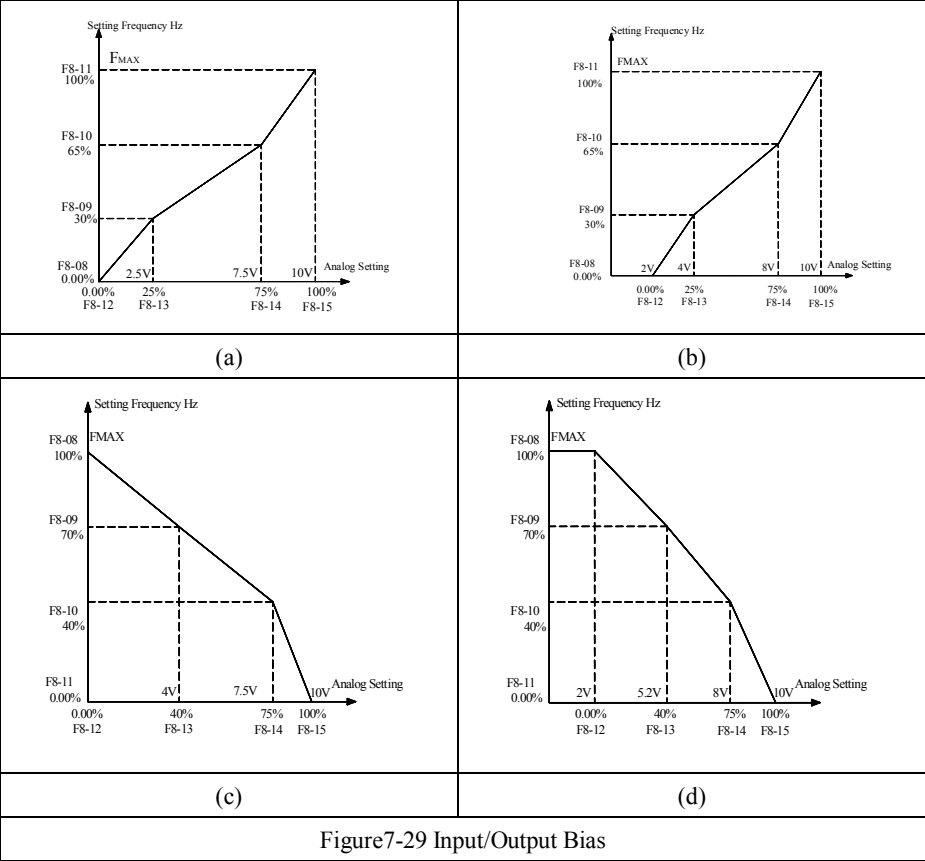

Figure7-29 Input/Output Bias
If analog input is VS/VF (0~10V) or IS/IF (0~20mA), see Figure 7-29(a) for the input/output bias.
If analog input is VS/VF (2~10V) or IS/IF (4~20mA), see Figure 7-29(b) for the input/output bias.
If analog input is VS/VF (0~10V) or IS/IF (0~20mA), see Figure 7-29(C) for the input/output bias.
If analog input is VS/VF (2~10V) or IS/IF (4~20mA), see Figure 7-29(d) for the input/output bias.